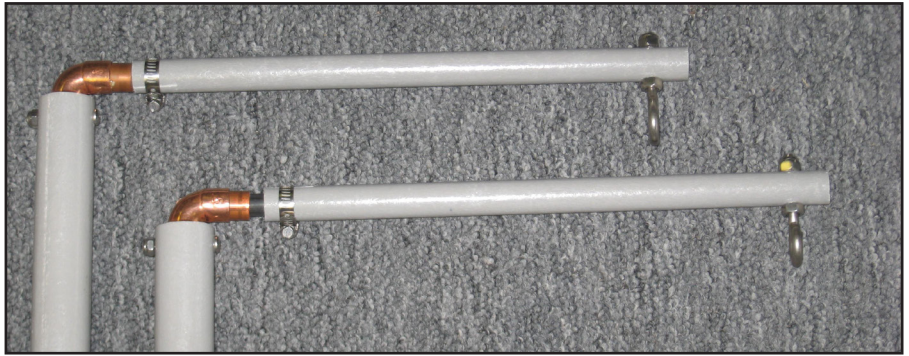

Fig. 18
- Place each of the tubes completed in the previous step over the 0.5" OD x 12" Rods as shown in Fig. 18. Tighten the hose clamps.